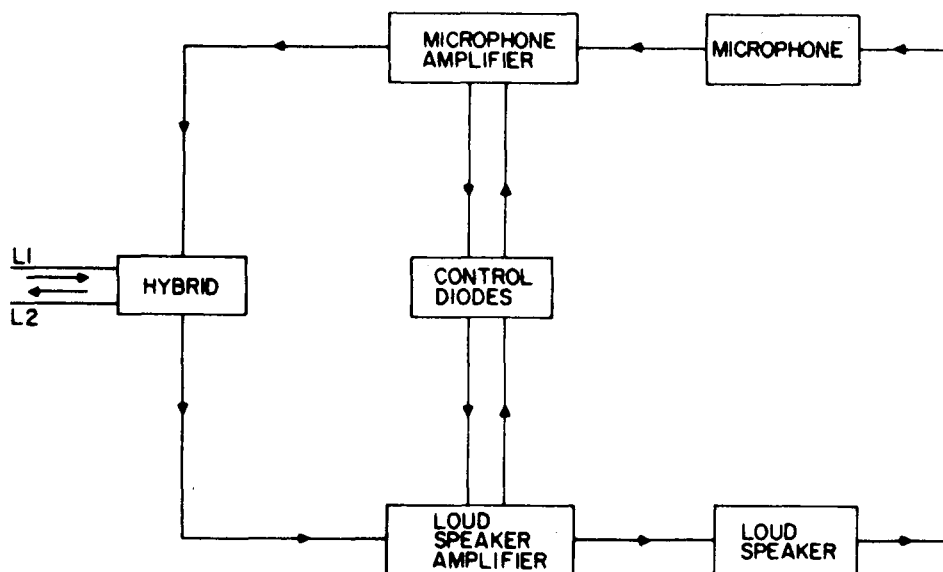

Figure 8. Block Diagram of Loudspeaker Telephone Circuit.
6.03 Figure 8 is a block diagram of the loudspeaker telephone circuit. Lines L1 and L2 are connected to the hybrid. The hybrid network is a bridge circuit used to couple the microphone and loudspeaker amplifiers to the line while minimizing the electrical coupling between these amplifiers. The ideal hybrid network should be exactly balanced against the impedance of the line, but since the balance actually varies with the characteristics of the particular line and its distant terminating impedance, some coupling always exists.